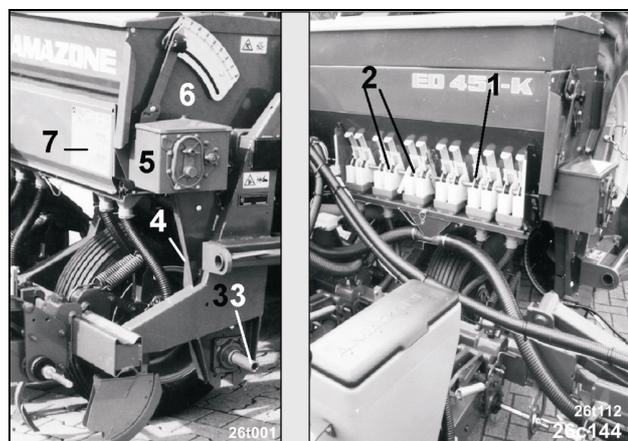

Fig. 146
- The seed metering wheels (Fig. 146/2) are arranged on the metering shaft (Fig. 146/1). They are driven by the shaft (Fig. 146/3) of the running wheels via the chain drive (Fig. 146/4) and the setting gearbox (Fig. 146/5) for the fertiliser application.